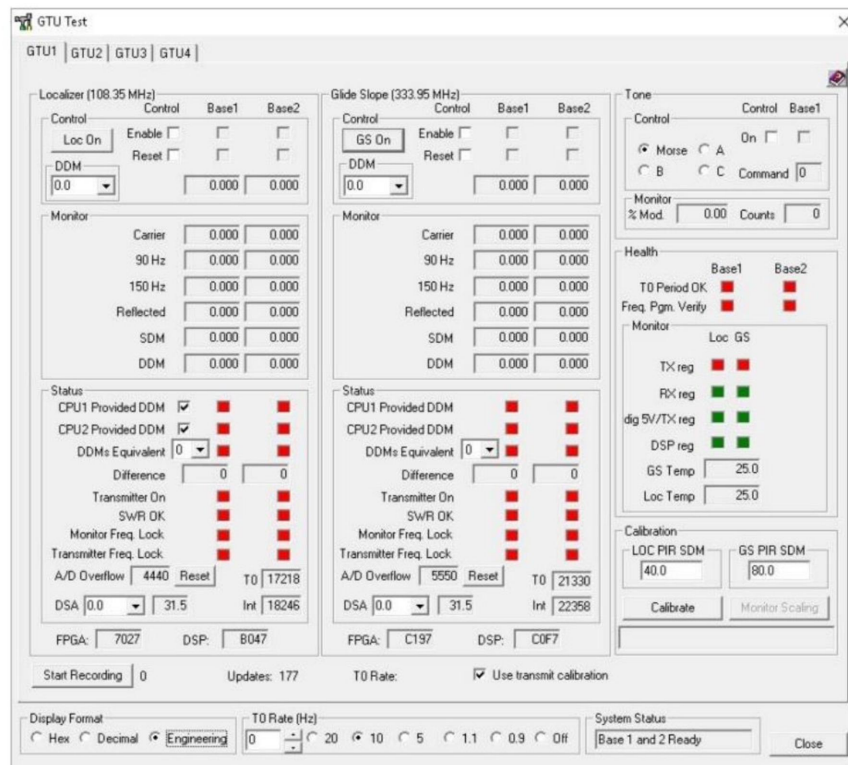

Figure 7-1. GTU Test Interface
- See Figure 7-1 GTU Test Interface for the remainder of this section.